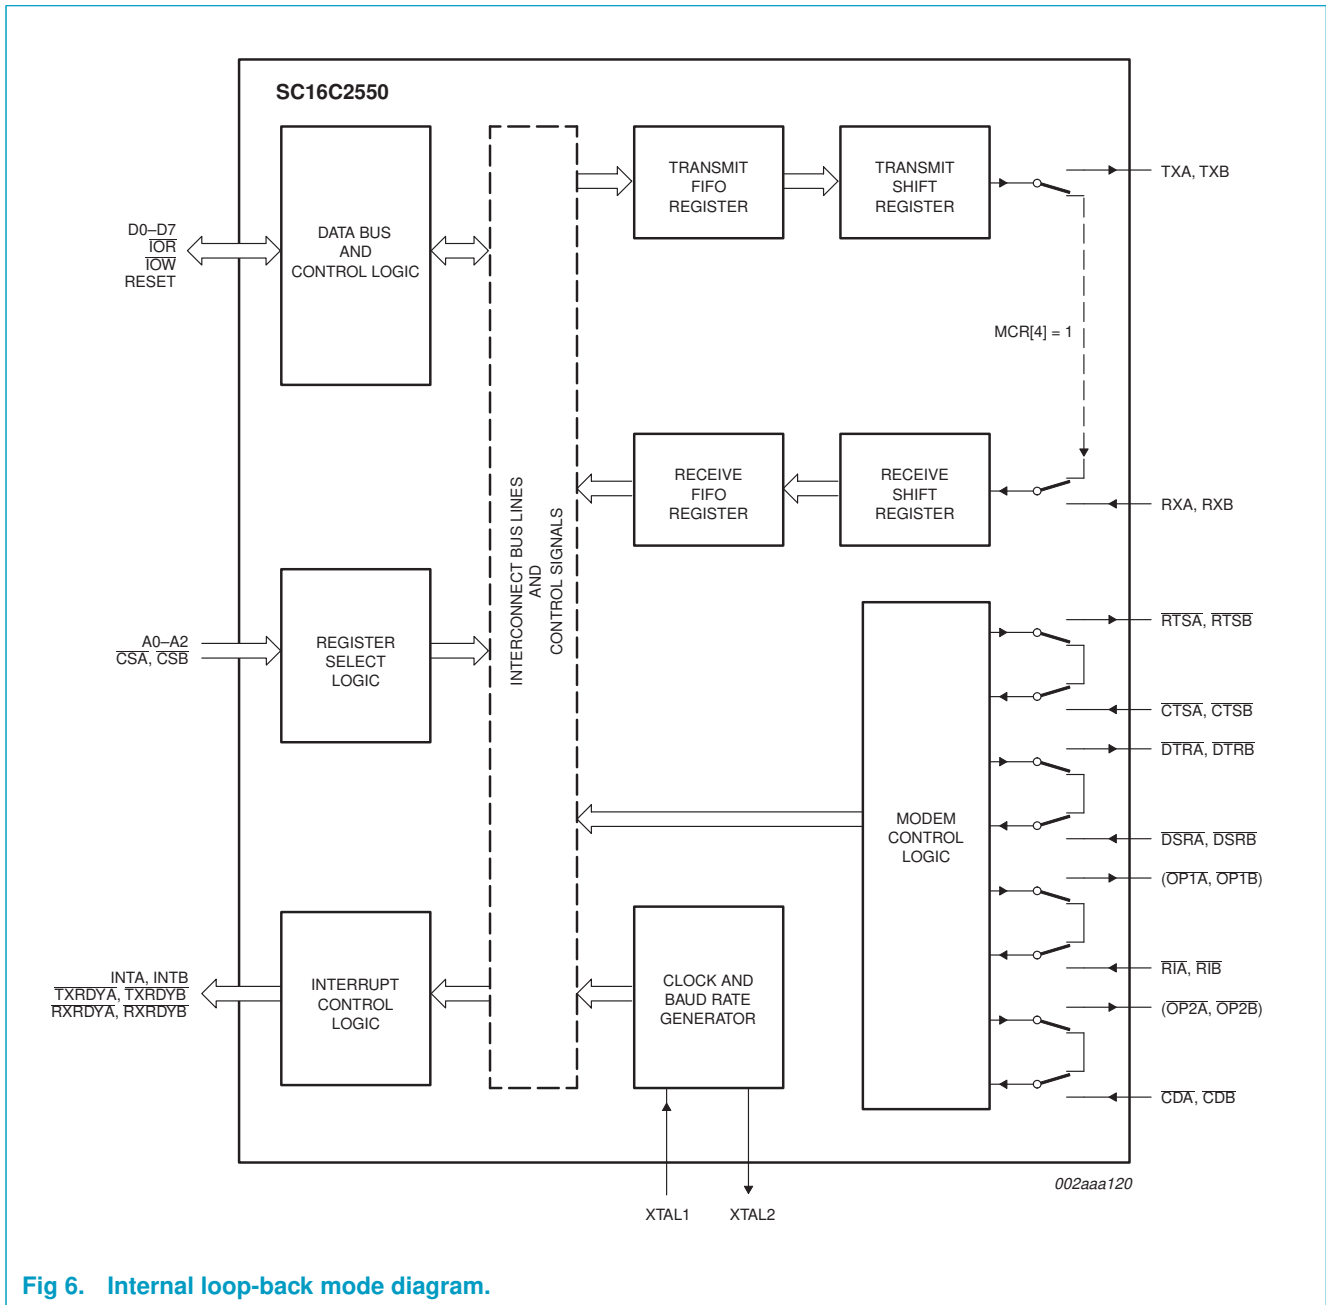

Fig 6. Internal loop-back mode diagram.
The internal loop-back capability allows on-board diagnostics. In the loop-back mode, the normal modem interface pins are disconnected and reconfigured for loop-back internally (see Figure 6). MCR[0-3] register bits are used for controlling loop-back diagnostic testing. In the loop-back mode, the transmitter output (TX) and the receiver input (RX) are disconnected from their associated interface pins, and instead are connected together internally. The CTS, DSR, CD, and RI are disconnected from their normal modem control inputs pins, and instead are connected internally to  $\overline{\text{RTS}}$ ,  $\overline{\text{DTR}}$ , MCR[3] ( $\overline{\text{OP2}}$ ) and MCR[2] ( $\overline{\text{OP1}}$ ). Loop-back test data is entered into the transmit holding register via the user data bus interface, D0-D7. The transmit UART serializes the data and passes the serial data to the receive UART via the internal loop-back connection. The receive UART converts the serial data back into parallel